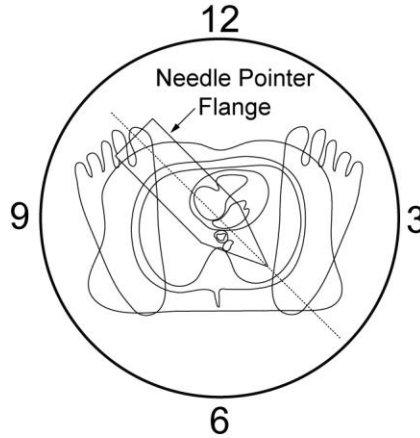

Figure 5
- Adjust the pointer flange so that the needle is perpendicular to the fossa ovalis (typically between 3:00 and 5:00 o'clock, as viewed from the foot end of the patient). (See Figure 5.)